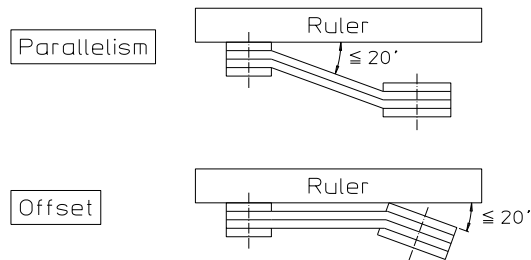

Fig.1: Parallelism and Offset
- (1) Remove the belt cover.
- (2) Loosen the holding bolts for the motor.
- (3) (When replacing) Bring the motor closer to the blower by the adjusting bolt of the motor-base, and remove the old belt.
- (4) (When replacing) Install the new belt. If multiple belts are used, it is recommended to use “matched set” of which the circumference length is the same.
- (5) Adjust the parallelism and offset by putting a ruler on motor pulley and blower pulley, at the same time, adjust deflection as you give tension at the center of the span to the belt. (Fig.1, 2 and Table 1)
- (6) Tighten the holding bolts to fix the motor.
- (7) Put back the belt cover.